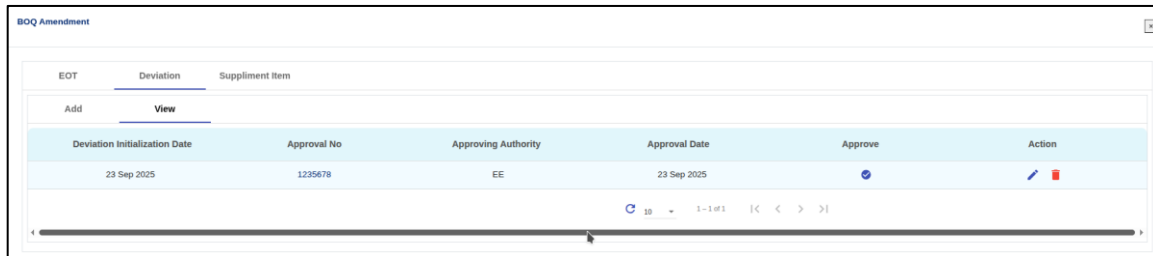

Figure 4.1.3.2.3.2 View Deviation for BOQ amendment
Click on the View Awarding button, entered details will appear in tabulated as shown in Figure 4.1.3.2.3
Refer figure 4.1.3.2.3 Where a column labeled Upload BOQ is displayed. For every sub-work included in the tender, there is a field to capture BOQ items and amendment details, organized under sub-work sections.
To upload BoQ click on the + icon present in the ITEM sub split of BoQ. It will display a pop up as shown in Figure 4.1.3.2.4
In the "Action" column corresponding to the relevant split work entry, click on the tick mark [✓] icon to **approve** the BOQ. This confirms that the BOQ details are finalized and locked for further processing. As shown in Figure 4.1.3.2.5
- Select Level – Number of levels required to fill Items / Node details, if Item saved in Level 1 then unable to change the level as per Figure 4.1.3.3.3
- Each Item, Node of EPC work could be added level by level as shown in Figure 4.1.3.3.4